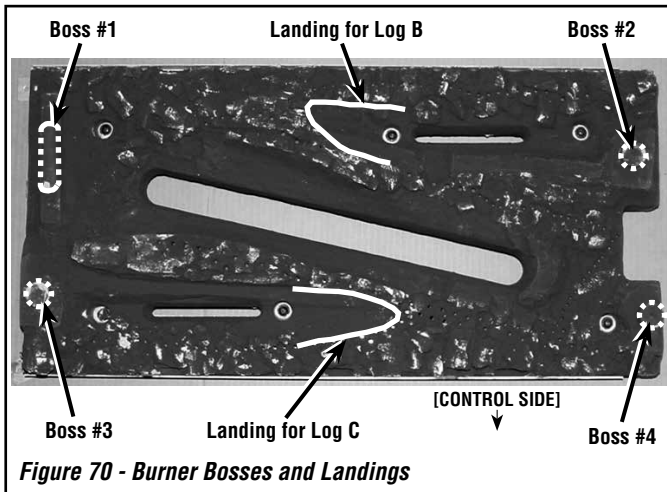
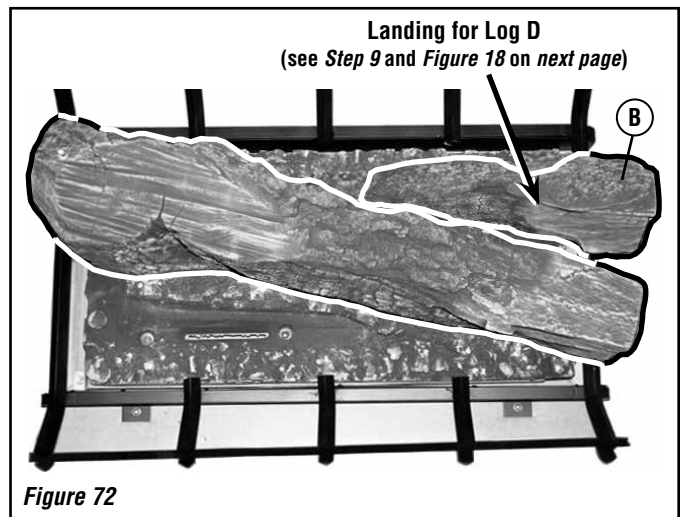

Figure 70 - Burner Bosses and Landings
Figure 72
7. Place notch on underside of Right Rear Log B (Figure 72) over Boss #2 (Figure 70).
Place opposite end of **Right Rear Log B** (Figure 16) on **Landing for Log B** (see *Figure 70*).
8. See Figures 70 and 73. Place notch on underside of Left Front Log C over Boss #3.
Place opposite end of **Left Front Log C** on **Landing for Log C** (see *Figure 70*).
The middle section of **Log D** will rest on the landing on **Log B** (labeled as "**Landing for Log D**" in **Figure 72**).